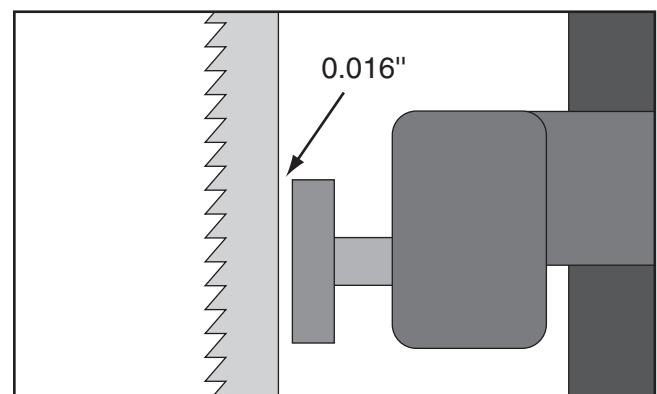
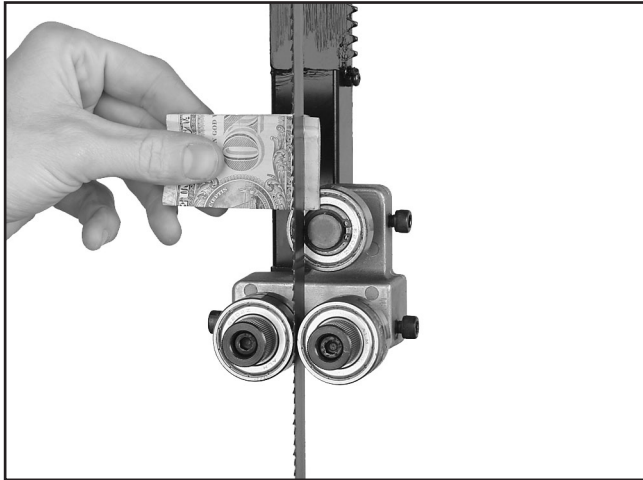

Figure 26. Blade should be aligned approximately 0.016" away from the bearing edge.
Figure 27. Dollar bill folded twice to make an approximate 0.016" gauge.
6. Place a 0.016" feeler gauge between the support bearing and the blade, and position the bearing 0.016" away from the back of the blade as illustrated in **Figure 26**.
Note: For a quick gauge, fold a dollar bill in half twice (four thicknesses of a dollar bill is approximately 0.016") and place it between the support bearing and the blade as shown in **Figure 27**.
6. Place a 0.016" feeler gauge between the support bearing and the blade, and use the adjustment knob to position the bearing 0.016" away from the back of the blade (similar to **Figure 26**) or use a dollar bill (**Figure 27**) instead of a feeler gauge.